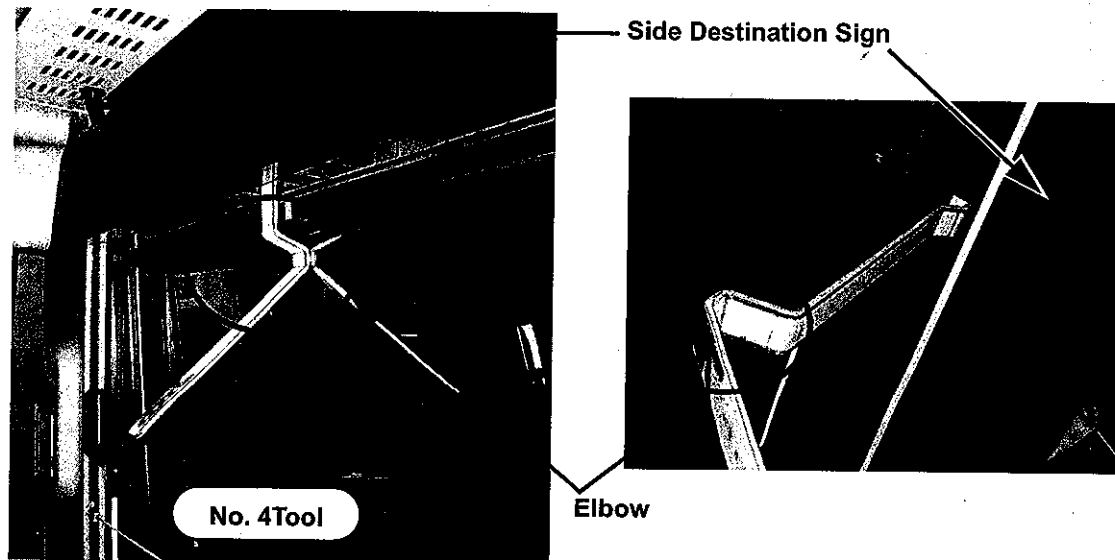

FIGURE 1-6 TOOL# 4 USED ON DESTINATION SIGN WINDOW
- c. **Destination Sign (R1) Window** (if equipped) - Open the top-hinged side destination sign window and, from outside the bus, secure the No. 4 testing tool to the top edge of the window as shown in **Figure 1-6**.